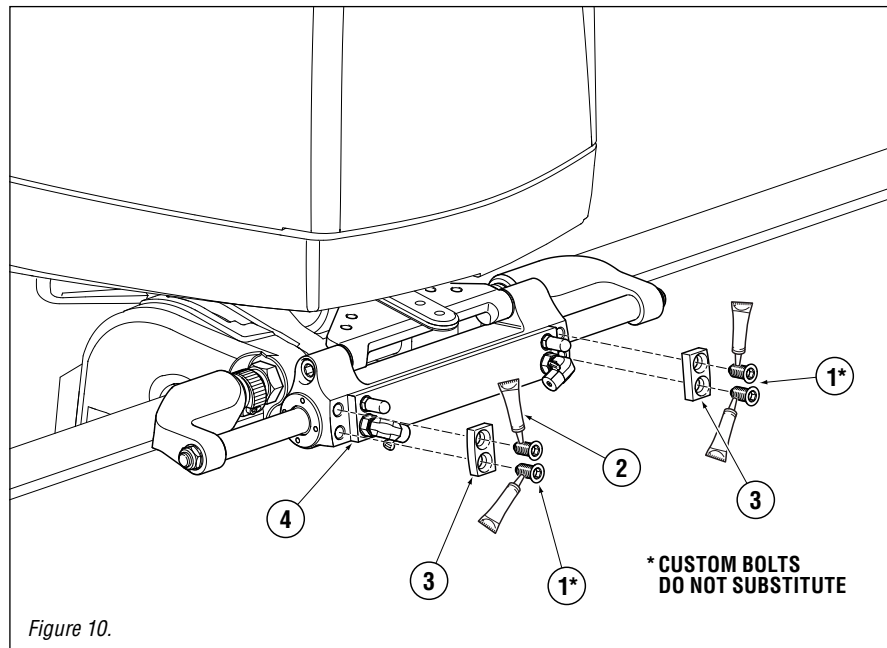

Figure 10.
2. Mount blanking plates (item 3) to both sides of steering cylinder (item 4) as shown in Figure 10.